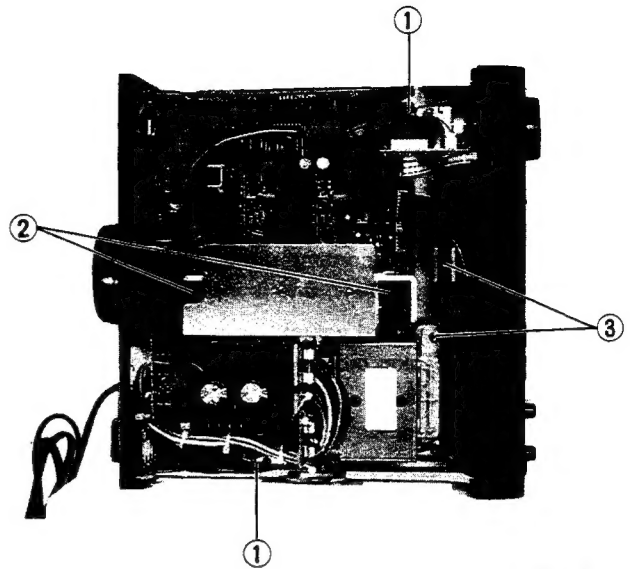

Fig. 1
2. Remove the 6 screws ①②③ fastening the main P.C.board and heat sink bracket.(Fig.1)